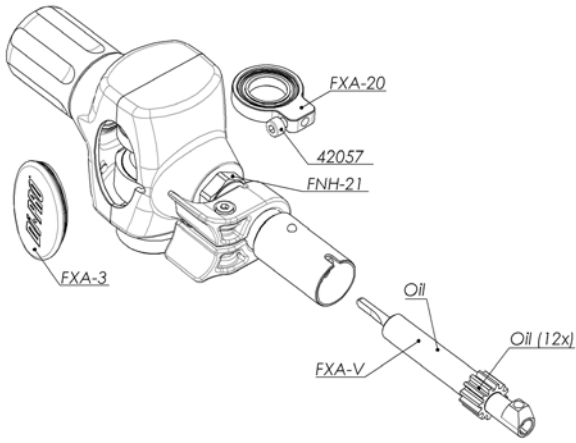

Fig. 14
4. Clean the piston rod and tool-holder (FXA-V) carefully with a soft cloth and apply a few drops of lubrication oil, type Diprofil FNA-K or equivalent, according to fig.14 and 15.